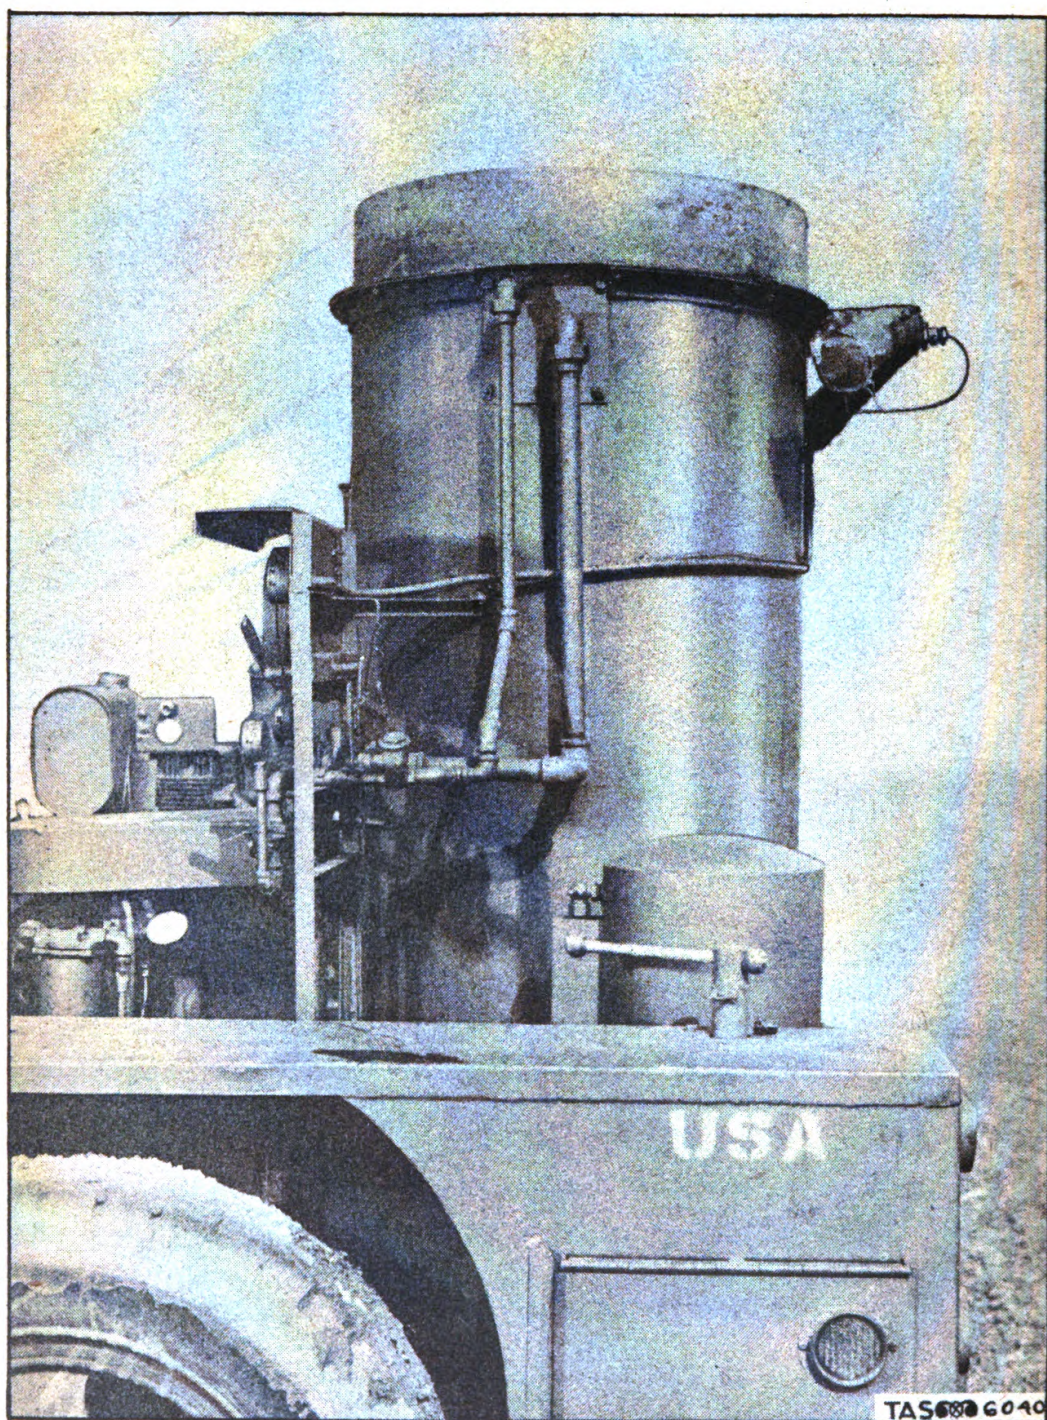
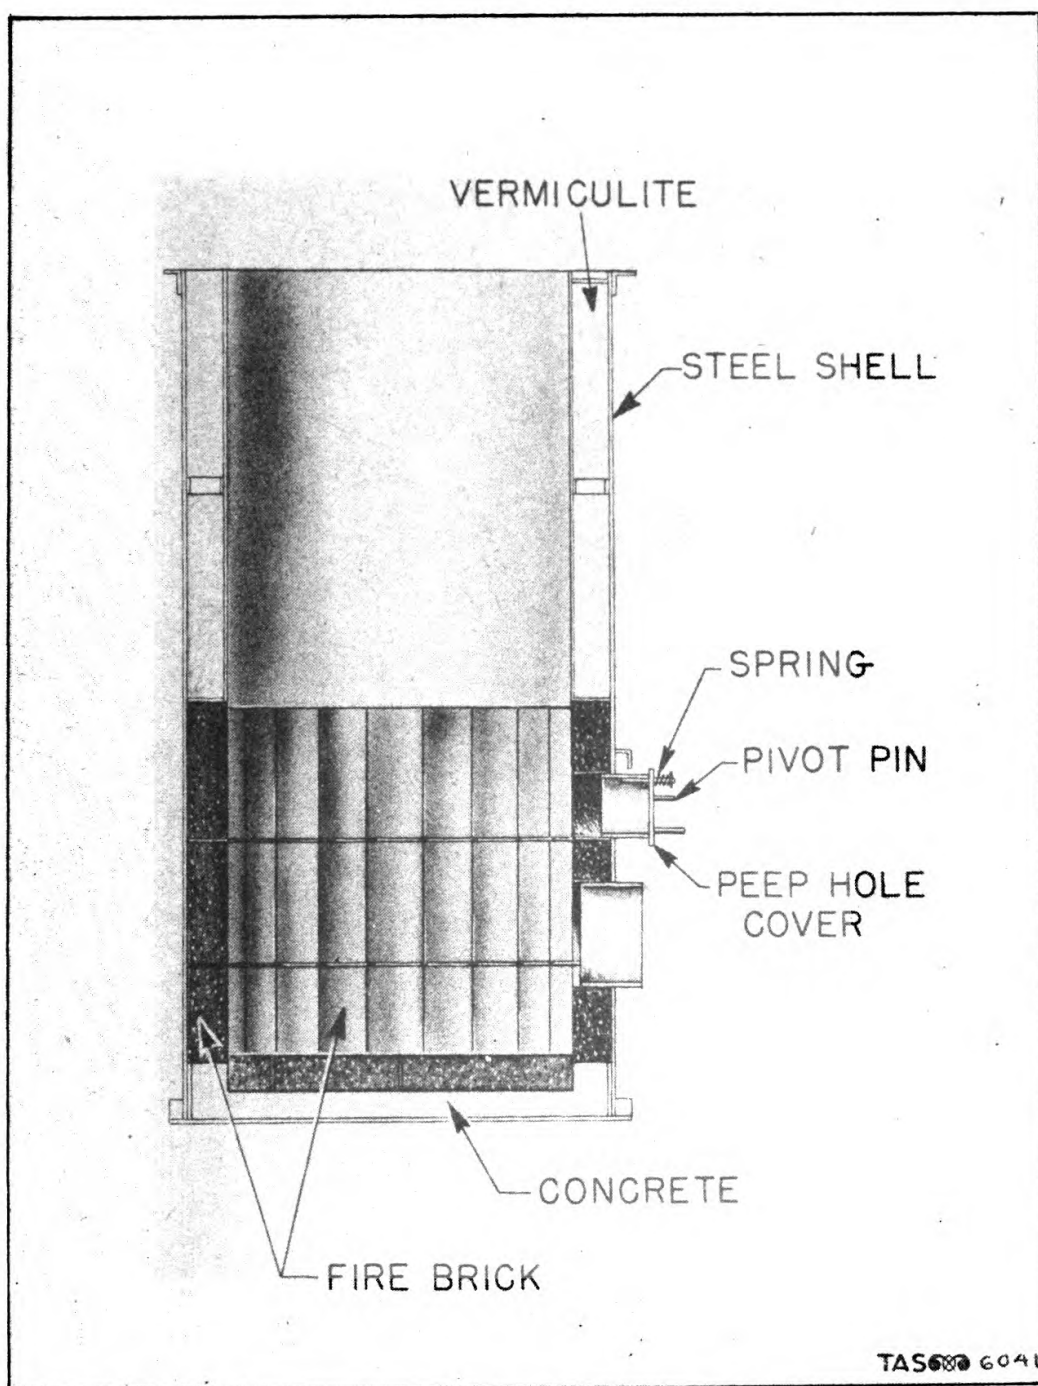

Fig. 40. Furnace.
Fig. 41. Furnace Shell.
9. HEATING SYSTEM. a. Definition. The heating system consists of the furnace (fig. 40) and other devices immediately involved in the heating, super-heating, and final passage of special oil and water for the purpose of creating smoke.
c. Furnace shell. (1) Function of the furnace shell is to insulate the firebox and coil assembly.
(2) The insulating materials used in the furnace shell are shown in figure 41.